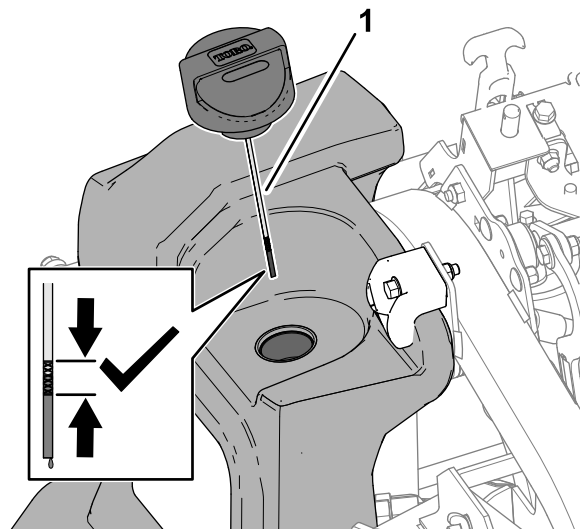

Figure 93
4. Clean the area around the hydraulic-tank dipstick and cap (Figure 93).
6. Insert the dipstick into the tank (Figure 93).
7. Remove dipstick and cap (Figure 93) and check the level of the fluid.
9. Install the dipstick and cap (Figure 93) into the tank.